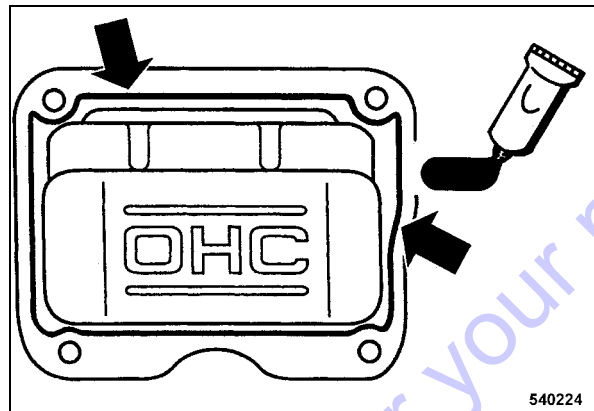

Fig. 49
- Apply a bead of liquid gasket (Three Bond 1207B or similar) with a diameter of approx. 1.5 to 2 mm to the inside of the cylinder head cover (Fig. 49).